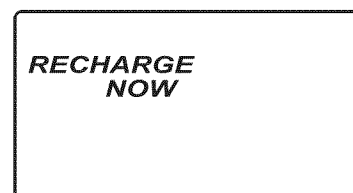

Figure 19
2. Press and hold the CLEAN button for a few seconds, until "RECHARGE NOW" flashes in the display, as shown in Figure 19.